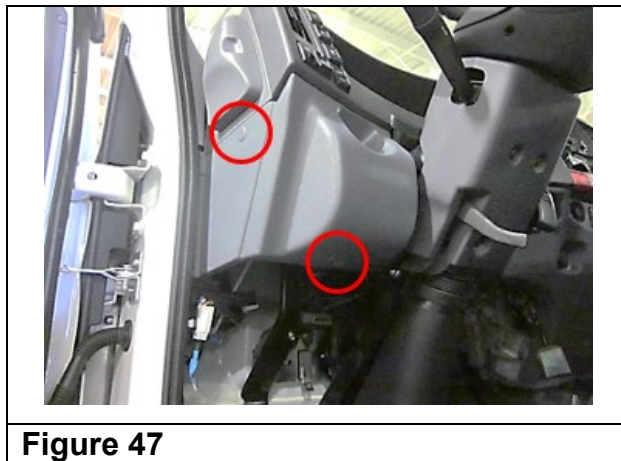

Figure 47
47. Remove the driver side instrument side cover. (See Figure 47.)